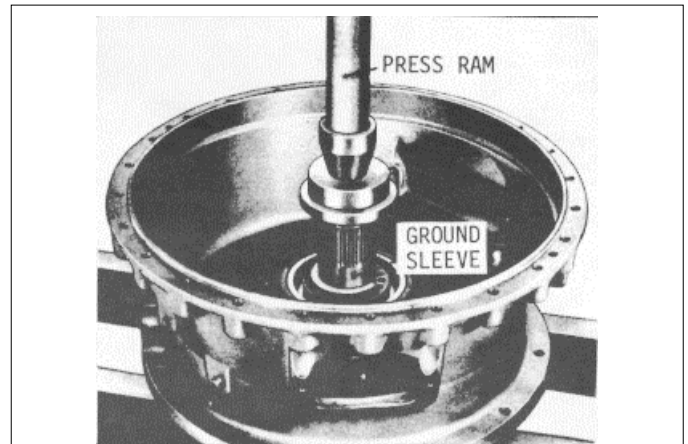

Fig. 18
- (f) Ordinarily, converter ground sleeve (18) is not removed. If it needs to be replaced, position the converter housing in a press, front side up, and press the ground sleeve out of the housing (Fig. 18). Remove the ground sleeve key and dowel pin from the ground sleeve.
- (2) Cleaning, Inspection, Wear Limits. Refer to paragraph 74.4 for cleaning and inspection procedures, and for wear limits information.